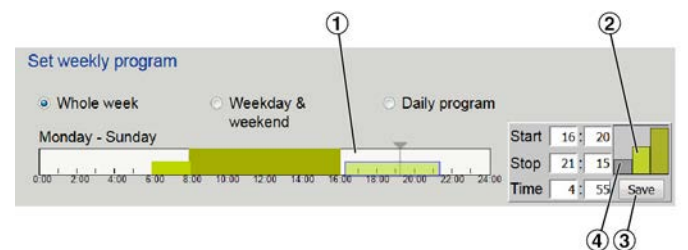

Fig. 44: Operating times
3. ▶ To set a new timer (period of time), first click on the white area (Fig. 44/1), then select the fan speed (low speed or high speed) (Fig. 44/2). Enter the start and stop times using the keyboard, or move the bar using the mouse. Then save your settings (Fig. 44/3).
To change a timer, mark the period with the mouse and change it. Then save your settings (Fig. 44/2).
To delete a timer, mark it with the mouse, then select 'Stop' (grey bar – Fig. 44/4); this deletes the timer.